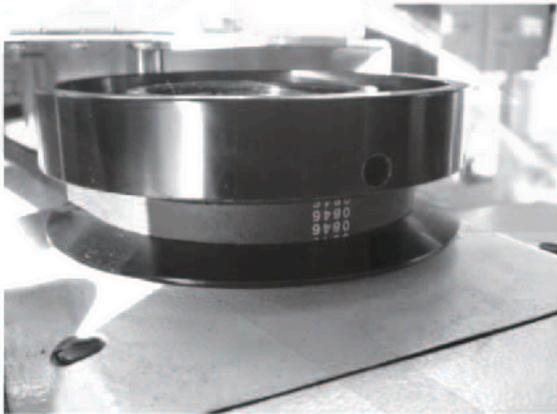

Fig.3c
- a. Take off the bell pulley cover, and arrange the gap width of the sewing machine's bell pulley (see **Fig.3c**).